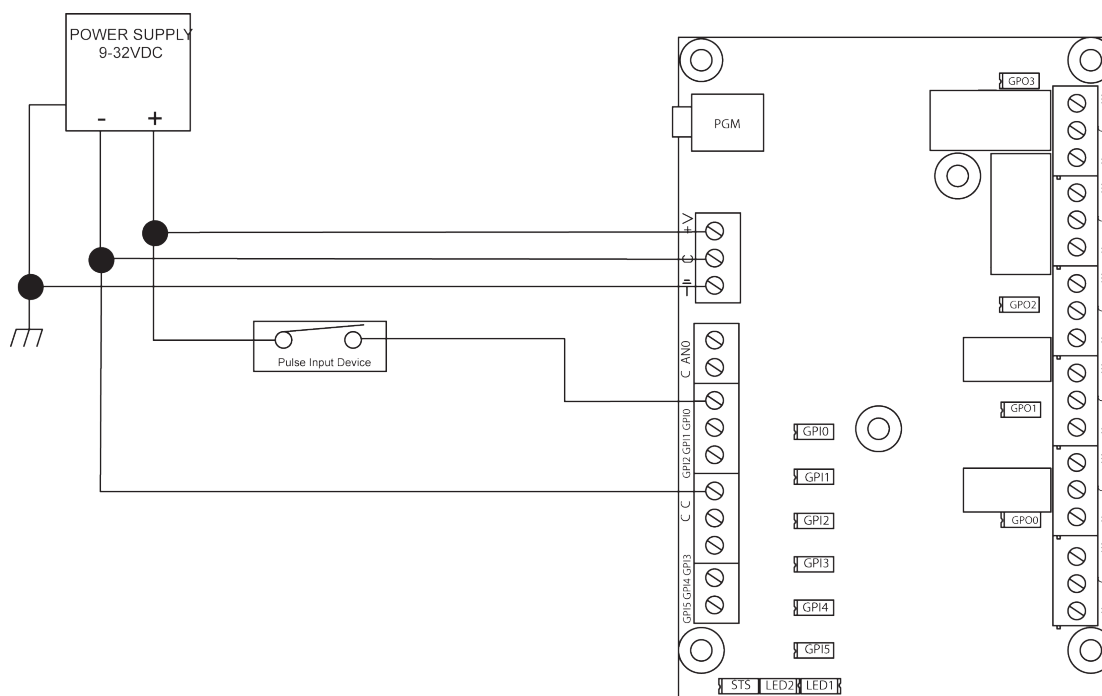

Figure 2.5 - Typical Counter Input Connections
Typical High Speed Counter connections are shown in Figure 2.5. This example is shown as a sinking input, but this input can still be wired as sinking or sourcing (must match GPI1 and GPI2 as they share the same common (C) terminal).